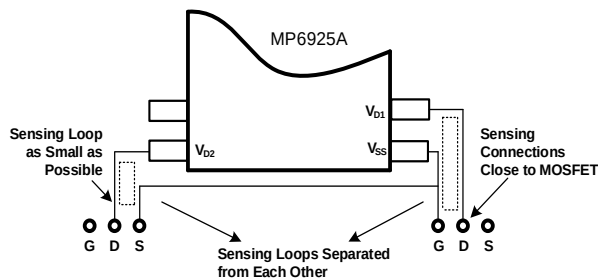

Figure 13: Sensing for  $V_D/V_S$
3. Make the sensing loop as small as possible (see Figure 13).